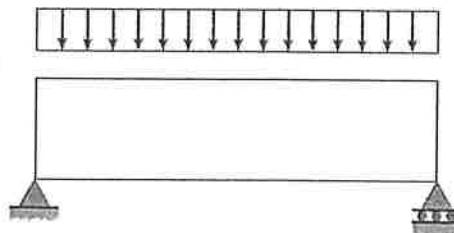

Figure 5
5. Please draw the principal-stress trajectories for a simply-supported beam (see Figure 5) of rectangular cross section with uniform distributed load along the whole length. Use solid lines to represent tensile principal stresses and dashed lines to represent compressive principal stresses. (20%)